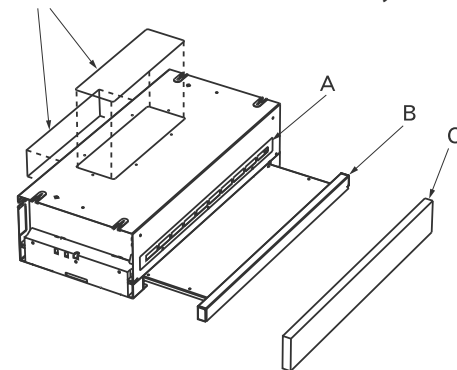

Fig.4 Preparing for install
- 1 Do not remove the knockouts shown in Fig.4. These are removed for ducted options only.
- 2 Remove Cover Tape "A". See Fig.4.
- 3 If an 80 mm handle is not installed (depending on model purchased), remove front fascia "B" by undoing the 3 screws on the fascia (see Fig. 4).
- 1 Remove the appropriate knockout to suit rear or top venting, as shown in Fig.4
- 2 Do not remove Cover Tape "A". See Fig.4. This is removed for recirculating only.